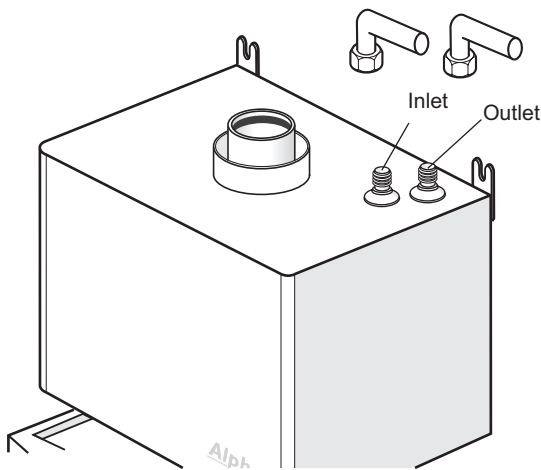

Fig. 9
1. Fit the ½" BSP to 15 mm tails (supplied) to the inlet and outlet connections setting them in the required positions. Using either solder or compression fittings connect the cold mains inlet to the inlet pipe (marked inlet, see Fig. 9). Route the pipework from the outlet to the hot connection of the blending valve supplied with the GasSaver.